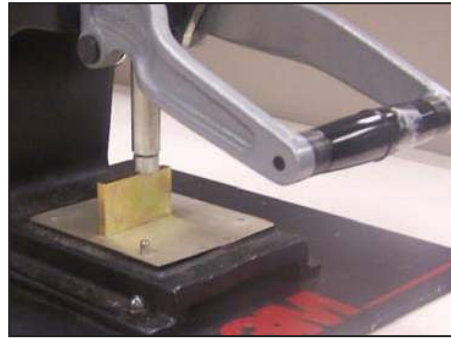

Figure 1
- 2.1 Remove the platen from the assembly press and adjust the press shut height to the appropriate setting. (Figure 1)